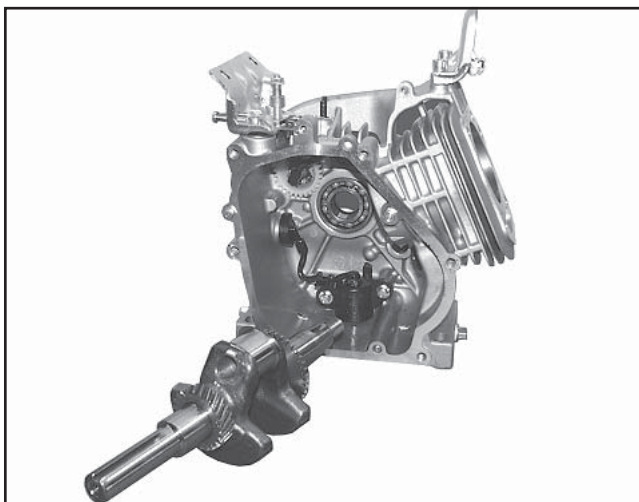

Figure 9-51. Removing Crankshaft.
2. Remove the crankshaft from the crankcase. See Figure 9-51.